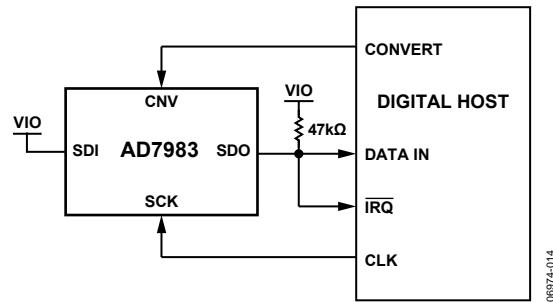
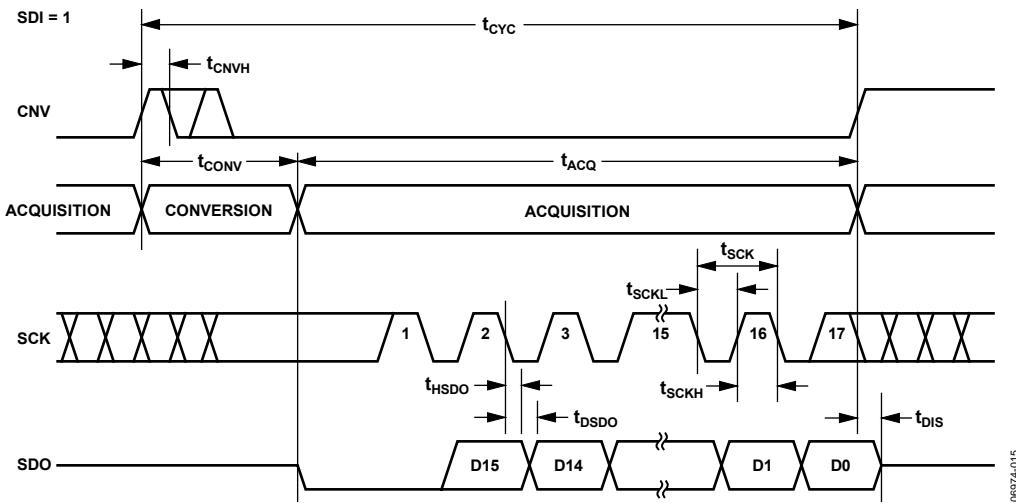
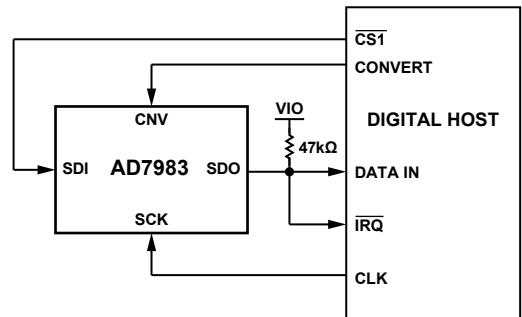
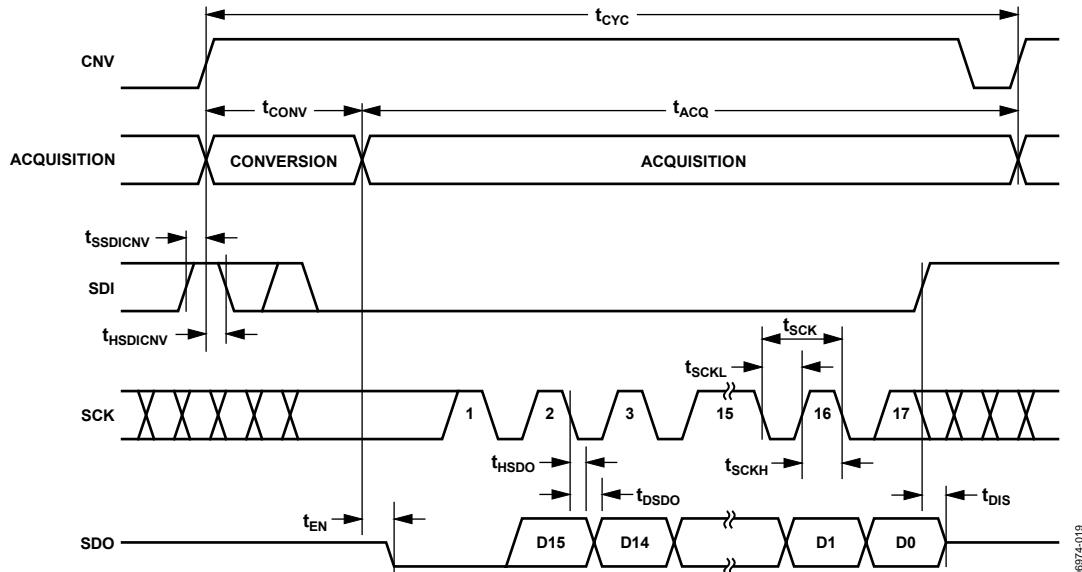

Figure 28. \overline{CS} Mode, 3-Wire with Busy Indicator Connection Diagram (SDI High)
Figure 29. \overline{CS} Mode, 3-Wire with Busy Indicator Serial Interface Timing (SDI High)
Figure 32. \overline{CS} Mode, 4-Wire with Busy Indicator Connection Diagram
Figure 33. \overline{CS} Mode, 4-Wire with Busy Indicator Serial Interface Timing
- In \overline{CS} mode if CNV or SDI is low when the ADC conversion ends (see Figure 29 and Figure 33).
The connection diagram is shown in Figure 28, and the corresponding timing is given in Figure 29.
The connection diagram is shown in Figure 32, and the corresponding timing is given in Figure 33.